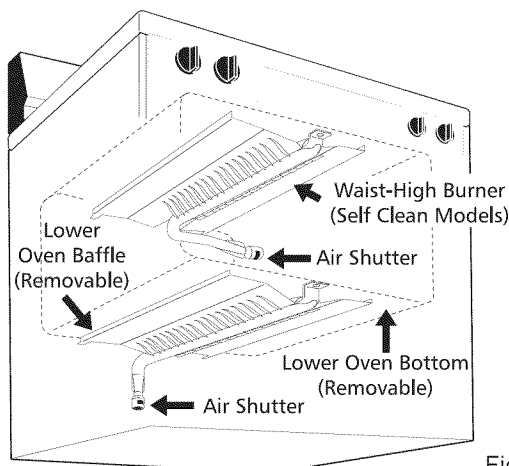

Fig. 19
- Observe the flame to determine if the broiler burner flame is properly adjusted. It should be steady with approximately 1" blue cones and no yellow or orange flame tips (See Fig. 19).